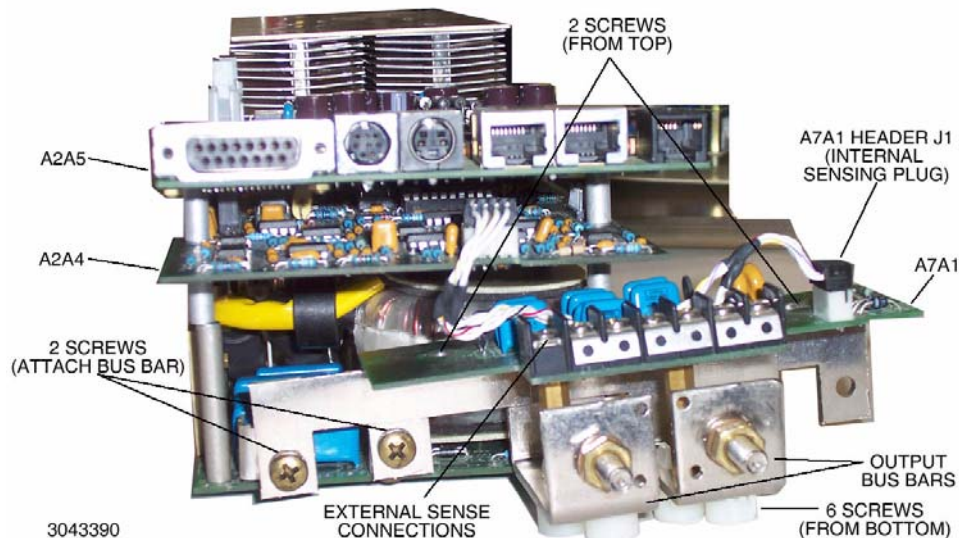

FIGURE 1. BUS BAR REMOVAL, REASSEMBLY
3. Disassemble bus bars together with A7A1 board by removing two screws from top and six screws from bottom (see Figure 1).
4. Use two screws to attach bus bars with A7A1 to A2 assembly (see Figure 1) and connect the internal sensing cable to header J1 of A7A1.
5. Refer to Figure 1 and disconnect the internal sense connections and remove two screws to detach bus bar assembly from A2 assembly. Then install the bus bar with A7A1 on the chassis, using two screws from the top and six screws from the bottom.